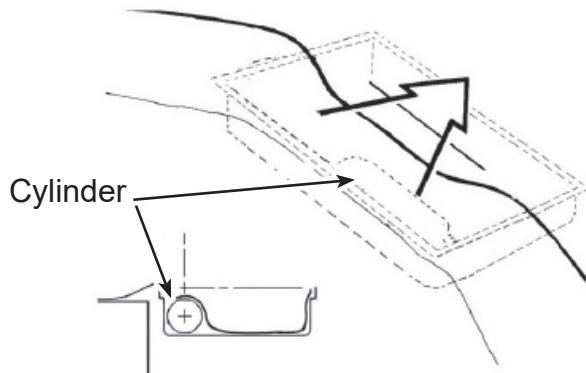

FIGURE 867
- 8.21.1 Put the cylinder at the back of the container and with the operating head close to the container corner. Refer to **Figure 867**.